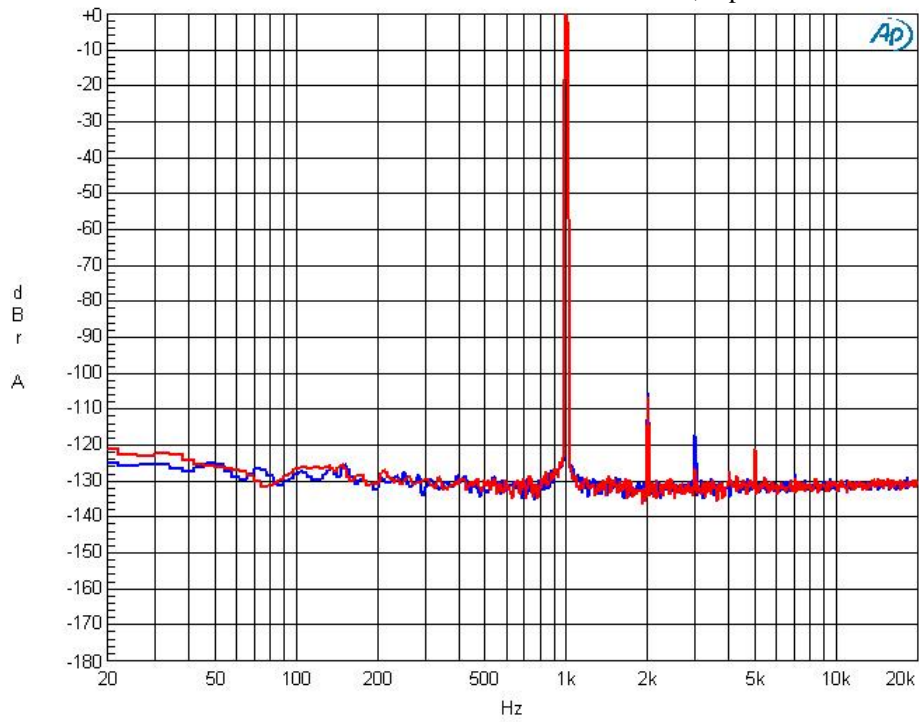

Figure1-1. FFT (fin=1kHz, Input Level=0dB)
- Figure 1-1. FFT (1kHz, 0dBFS input) at 2Vrms output